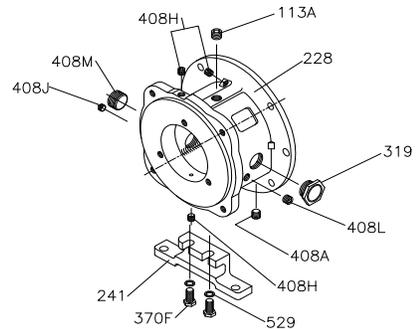

Figure 34
- 1.- Install in the bearing box all screw plugs (the oil drain plug, the four connection plugs oil mist, the two inlet plugs, cooling system outlet plug), in addition to the oil inspection glass and the two guide pins. (See Figure 34)